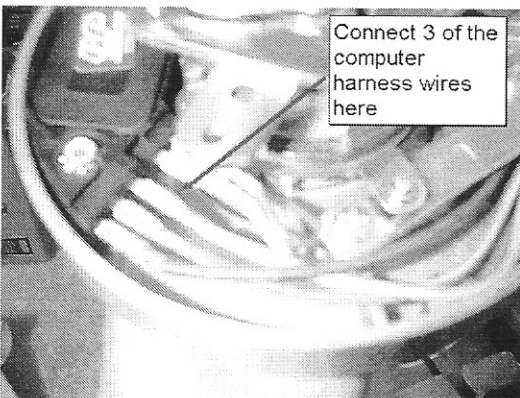

Figure 5
Next, make a harness that will connect the module to the computer. The wiring diagram is on the www.diy-efi.org web site in the incoming directory. The file name is 7pingmgif.zip. I use a 4 way shroud (as opposed to tower) Packard-Delphi Weatherpak connector with male pins, which is the factory configuration. I then solder 1/8" female spade terminals on the module end of the wires. The factory wire colors are white for the EST (E) terminal, purple/white for the timing reference HI signal (R), tan/black for the bypass signal (B), and black/red for the reference ground wire (no terminal on the Corvette module). These colors are standard on every GM distributor based EFI system made. The module terminals E, R, and B correspond to the WeatherPAK terminals A,B,C. The WeatherPAK D terminal connects to the distributor body. Beware that the ABCD terminal designations are reversed when using the 8-pin Camaro module, so pay careful attention to the correct diagram when wiring the module. The reversal has tricked me up before. (See Figures 5 and 6).